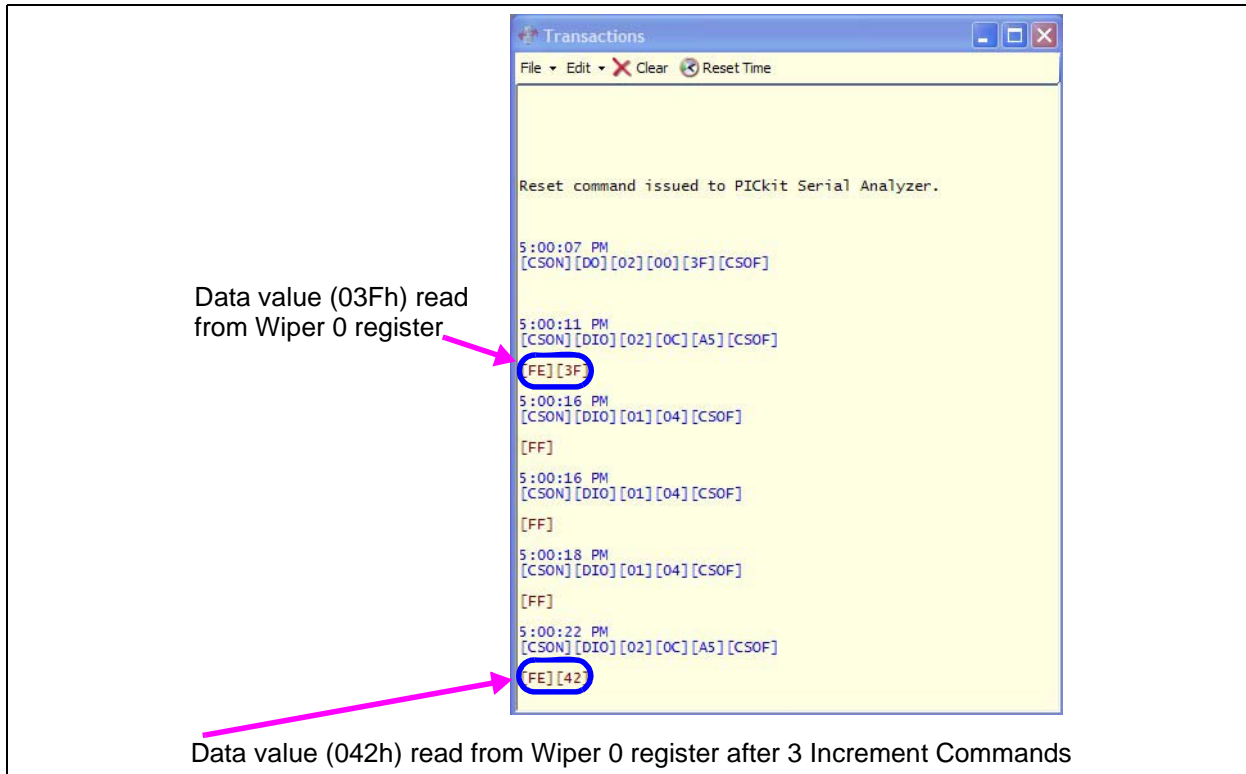

FIGURE 2-17: MCP4361 Transaction Window - Wiper 0 Increments.
32. Select the “ReadWiper0” script in the User SPI Scripts column and then click on the **Execute Script** button. The Transaction window shows the scripts that were executed and the current value of the Wiper 0 (see Figure 2-17).